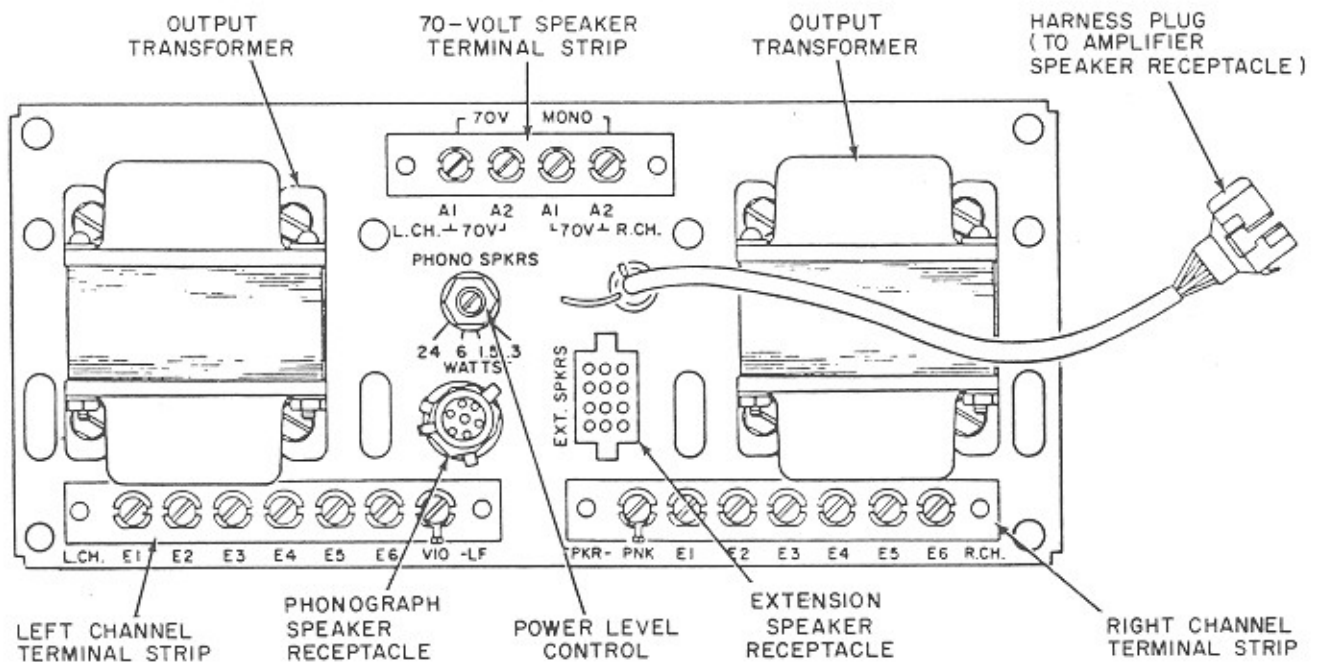

FIGURE 3-25. TRANSFORMER ACCESSORY PACKAGE
**Output Transformer Package (100W) (Optional) (See figure 3-25).** The transformer package enables the amplifier to operate 70-volt speaker lines for extension speakers, and provides exclusive Rowe/AMI Stereo Round Sound. Stereo Round Sound improves channel separation. The package consists of two output transformers, a power level control, and associated parts, mounted on a single chassis. The chassis sits on the floor of the cabinet to the left of the record changer mechanism. The unit is electrically connected between the amplifier and speaker system. Output transformer secondary connections are brought out to terminal strips to allow operation with low-impedance extension speakers as well as the recommended 70-volt extension speakers. A 4-position switch, at the center of the chassis, controls phonograph speaker level relative to extension speaker level.